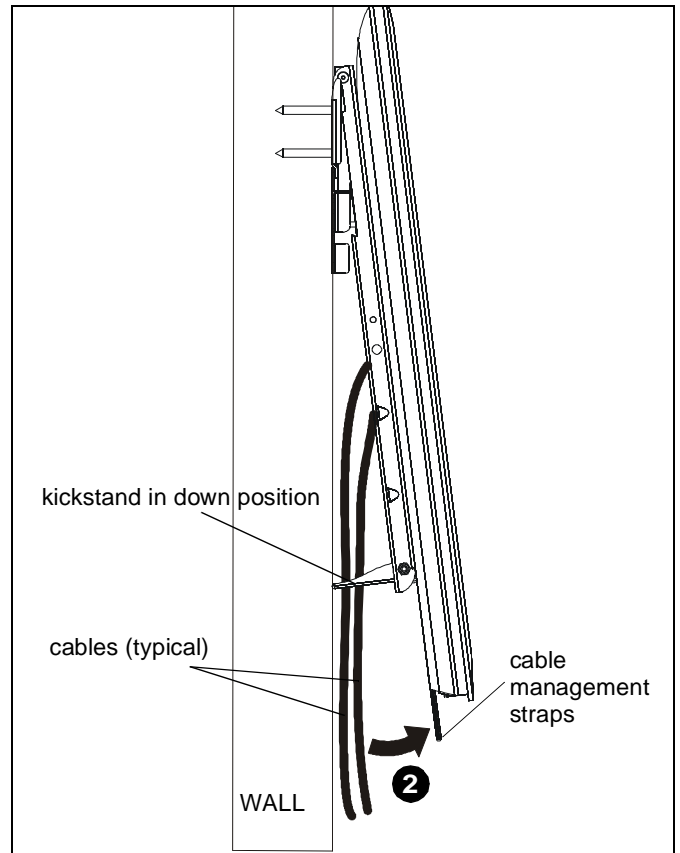

Figure 8
2. Slowly pull bottom of display away from wall until kickstand fully reaches its down position. (See Figure 8)
5. To disengage kickstand, slightly pull display away from wall and pull down on cable management straps to release kickstand. Slowly allow display to return to the wall. (See Figure 8)